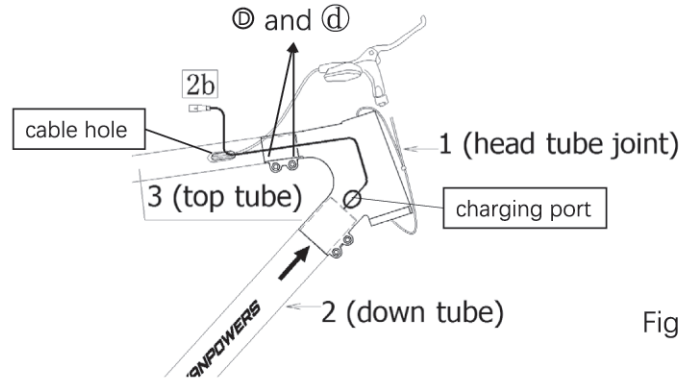

Figure 6
b. Insert Part 3 into Part 1 but do not tighten bolts ③ and ④ yet, as shown in Figure 6.